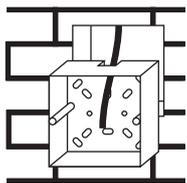

figure2
2. Pass the wires through the hole on the 86box, and put the 86box into the hole in the wall, the pre-buried with cement.(figure2)